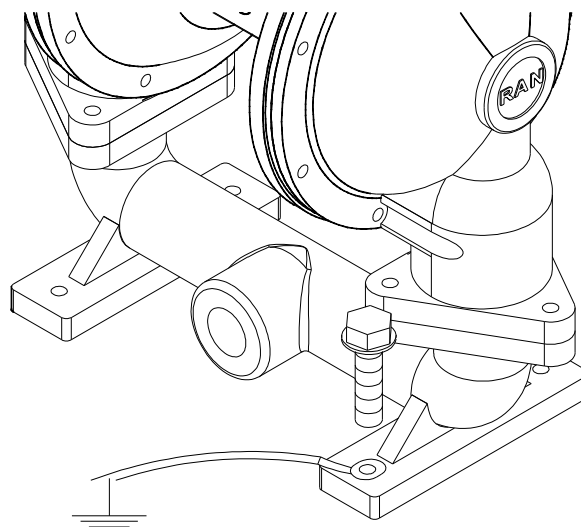

Figure 7- Pump grounding
3. Using a 17 mm socket wrench, remove the bolts holding the fluid covers to the air covers. Pull the fluid covers off the pump. See Fig. 7.